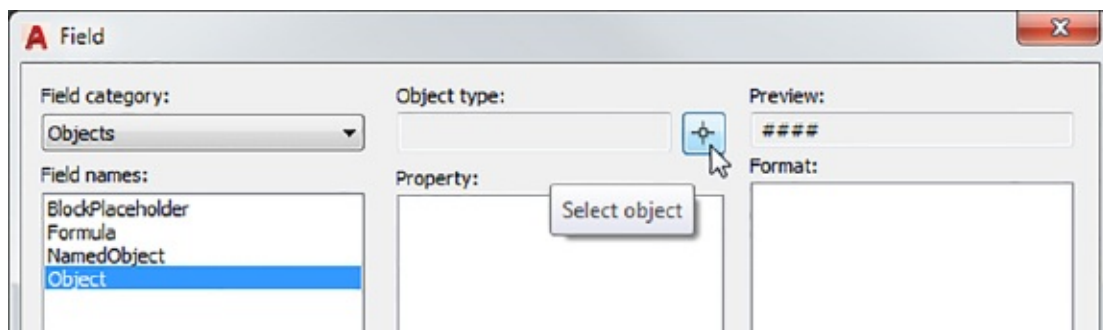

FIGURE 10.3 Click the Select Object button.
6. Click the Select Object button next to the Object Type box at the top of the Field dialog box (see Figure 10.3). The Field dialog box momentarily closes to enable you to select an object.